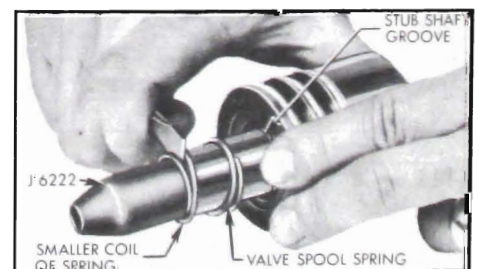

Figure 8-54—Installing Valve Spool Spring
5. Place Seal Protector J-6222 over stub shaft and slide valve spool spring over stub shaft with smaller diameter coil going over end of shaft last. See Figure 8-54. Work spring on shaft with a screwdriver until small coil of spring is seated in the stub shaft groove. Be careful not to damage surface of shaft.